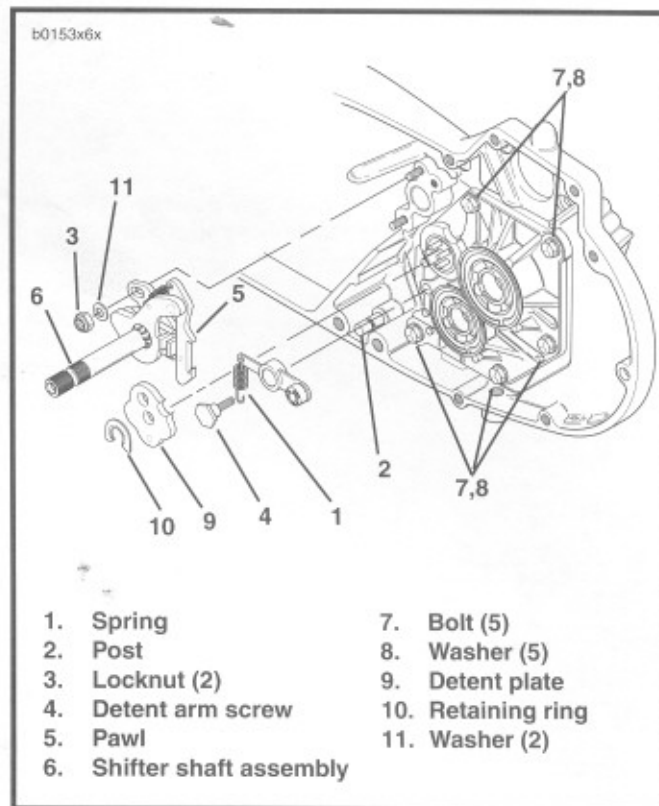

Figure 6-22. Shifter Shaft Assembly
- See Figure 6-22. Detach spring (1) from groove in post (2).
- Remove retaining ring (10) and detent plate (9). You will need to use a new retaining ring for installation.
- Remove two locknuts (3) and washers (11) which attach shifter shaft assembly (6) to studs at transmission case. Remove shifter shaft assembly.
- Remove five access door bolts (7) and washers (8). Remove transmission assembly by pulling it straight outward, away from transmission case.